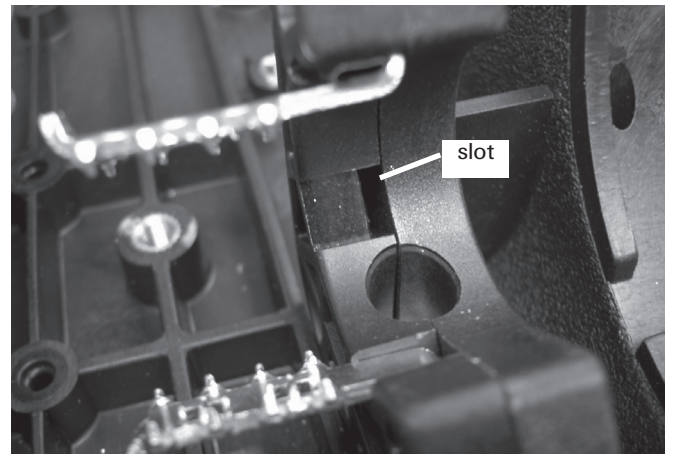

Figure 12
9. Install the strength member bracket into the FOSC 600 closure cable attachment assembly by pushing the metal tab into the slot. (Figure 12)